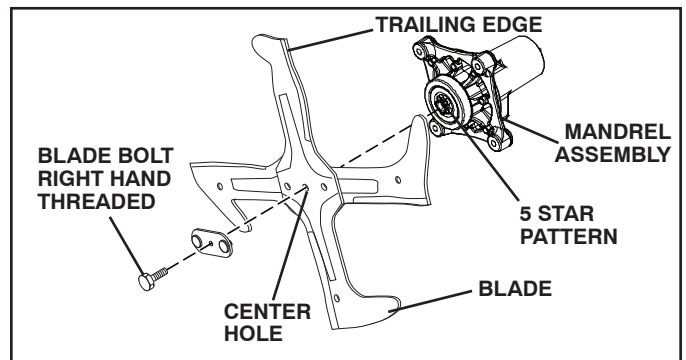

Fig. 33
**IMPORTANT:** BLADE BOLT IS GRADE 8 HEAT TREATED 5 STAR PATTERN BLADE (See Fig. 33)